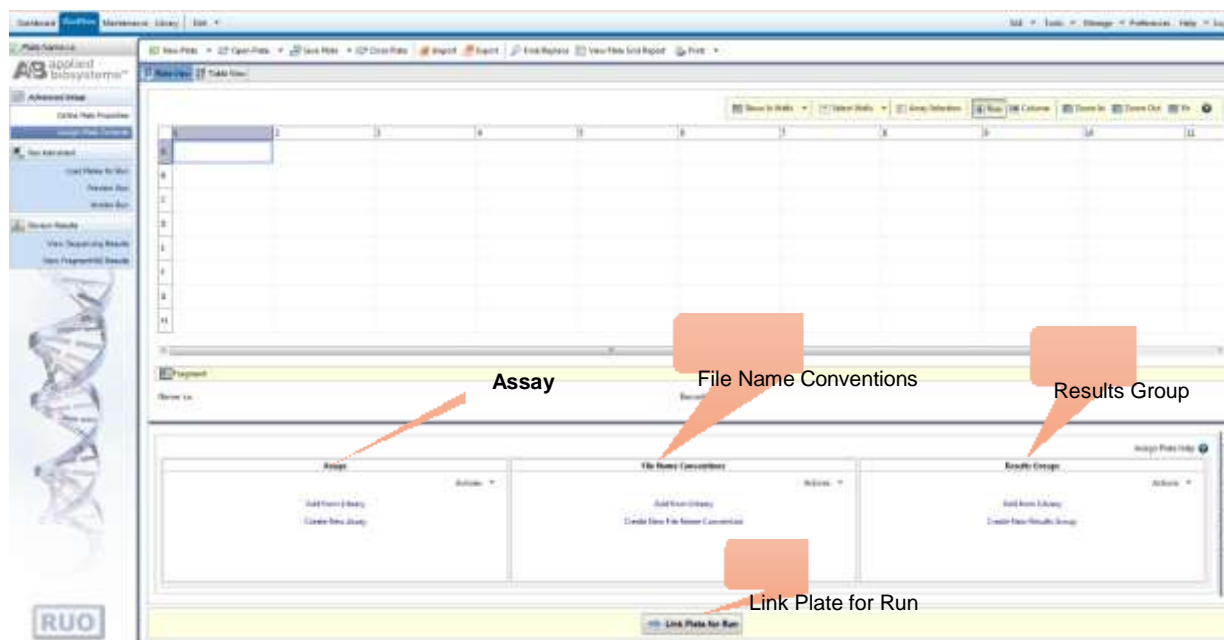

Figure 12. Screenshot for the “Assign Plate Contents” window on Applied Biosystems 3500 Data Collection software
- In the *Assign Plate Window* (Figure 12), in the bottom left corner, in a box “Assay”, click Add from Library option to select the Assay created in Step 3.1.4. Click on the “Add to Plate” button and close the window.